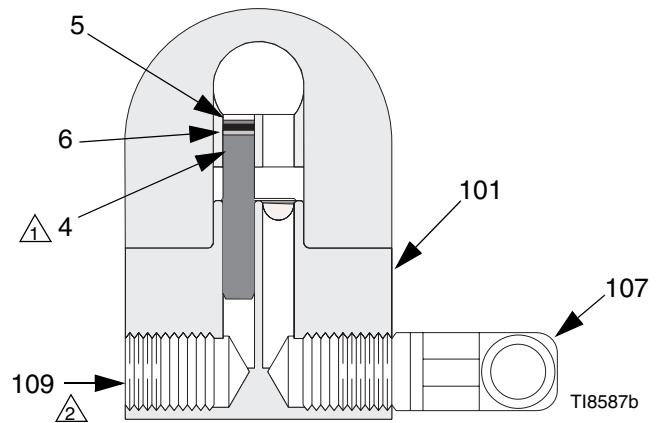

FIG. 1: Non-Circulating Setup (Cutaway View)
The gun is supplied with an internal fluid plug (4). See FIG. 1. To use the gun in a circulating system, remove the internal plug. In a non-circulating system, leave the plug in place to minimize flush time.
1. Apply anti-seize lubricant 222955 to the threads and mating faces of manifold (101), plug (109), and elbow (107), supplied unassembled.
2. Install an elbow (107) in one fluid port of the manifold (101), and a plug (109) in the other port.
3. Install the internal plug (4) in the gun fluid port on the same side as the manifold plug.
4. Connect the fluid supply line to the manifold elbow (107). See FIG. 1.
5. Install the gun on the manifold, using the four screws (14). Start the threads of all four screws, and tighten the front two screws first, and then tighten the back two screws to 65 in-lb (7.3 N•m).